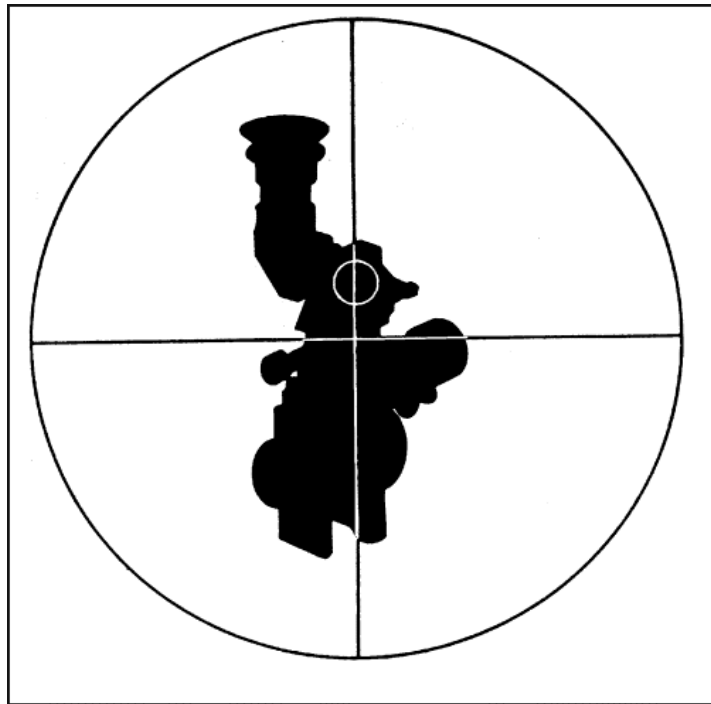

Figure 2-30. Sighting on the mortar sight.
- c. Each gunner repeats the announced deflection for his mortar, places the deflection on his sight (using the red fixed scale), and re-lays on the sight of the base mortar. When the lens of the base mortar sight is not visible, the gunner lays the vertical cross line of his sight on one of the other three mortar sights (Figure 2-30). He is laid in by this mortar once it is parallel to the base mortar sightunit. He then announces, "Number one (or three), ready for recheck."